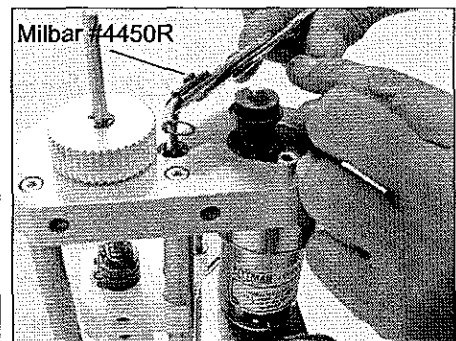

Figure 5-18b: Removing Retaining Ring
- c. Use the Milbar #4450R retaining ring tool to remove the retaining ring on top of the Motor and Bearing Mounting Plate (see Figure 5-18b).